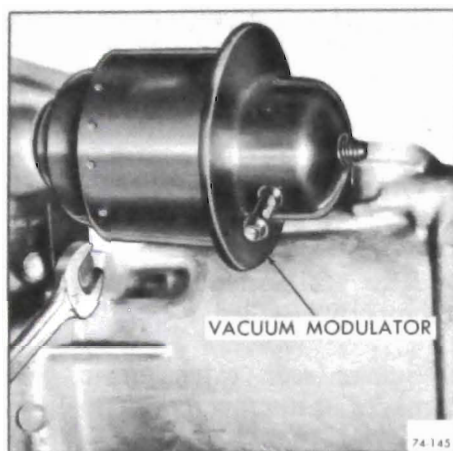

Figure 74-353
3. Install vacuum modulator retainer. See Figure 74-353. Install retainer so tang points toward vacuum modulator. Torque bolt to 8-12 lb.ft.